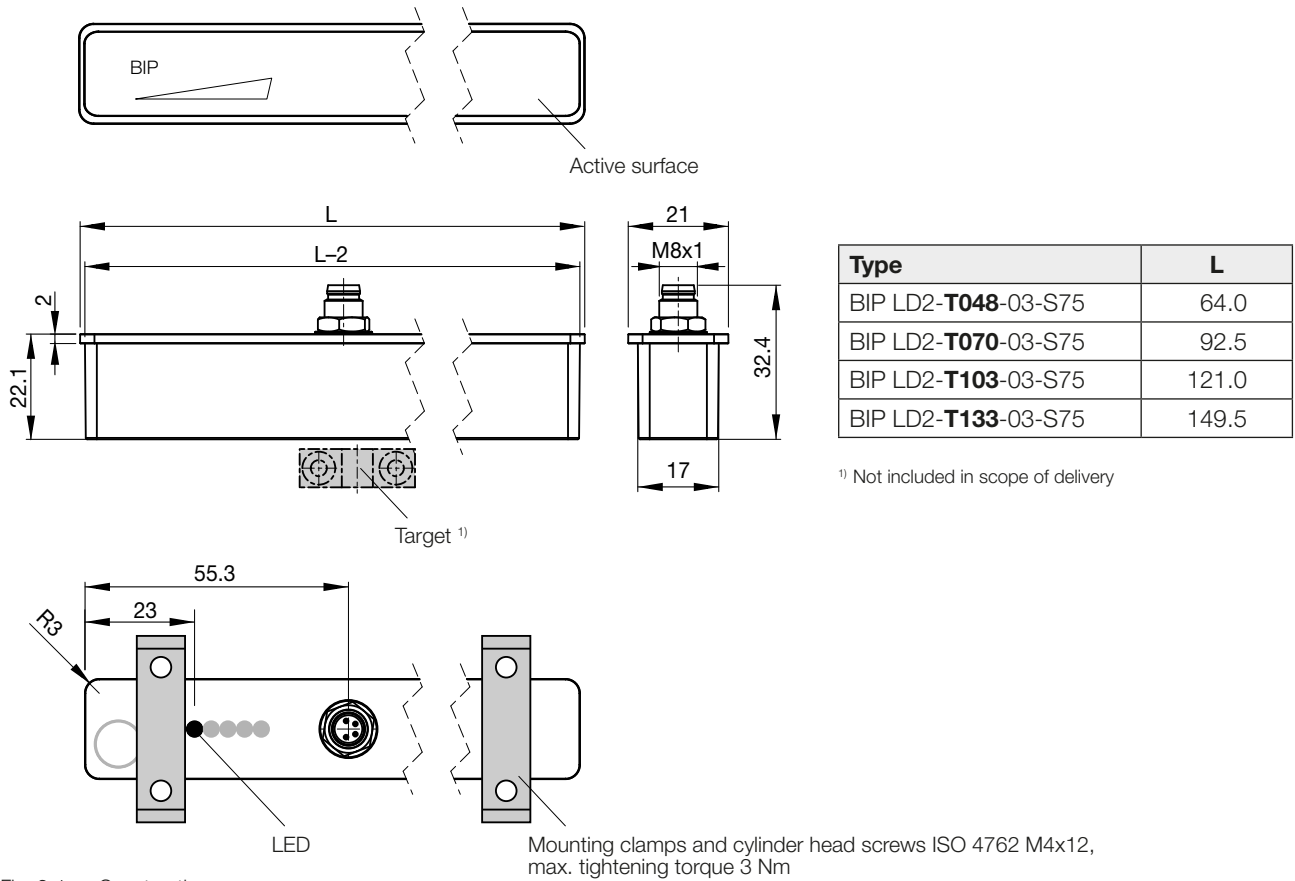

Fig. 3-1: Construction
- Observe tightening torques, see Fig. 3-1.